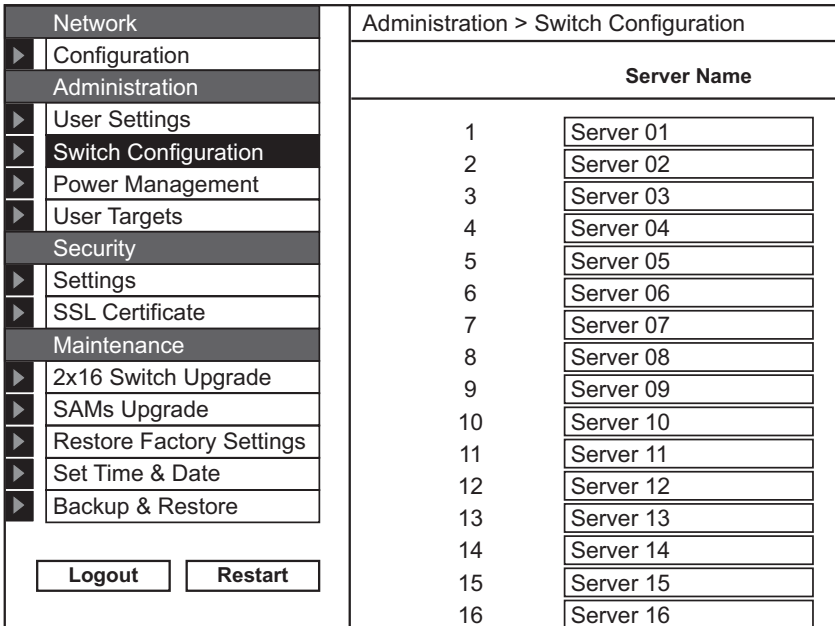

Figure 7-3. Switch Configuration screen.
1. From the menu, click Switch Configuration. The Switch Configuration window appears, see Figure 7-3.